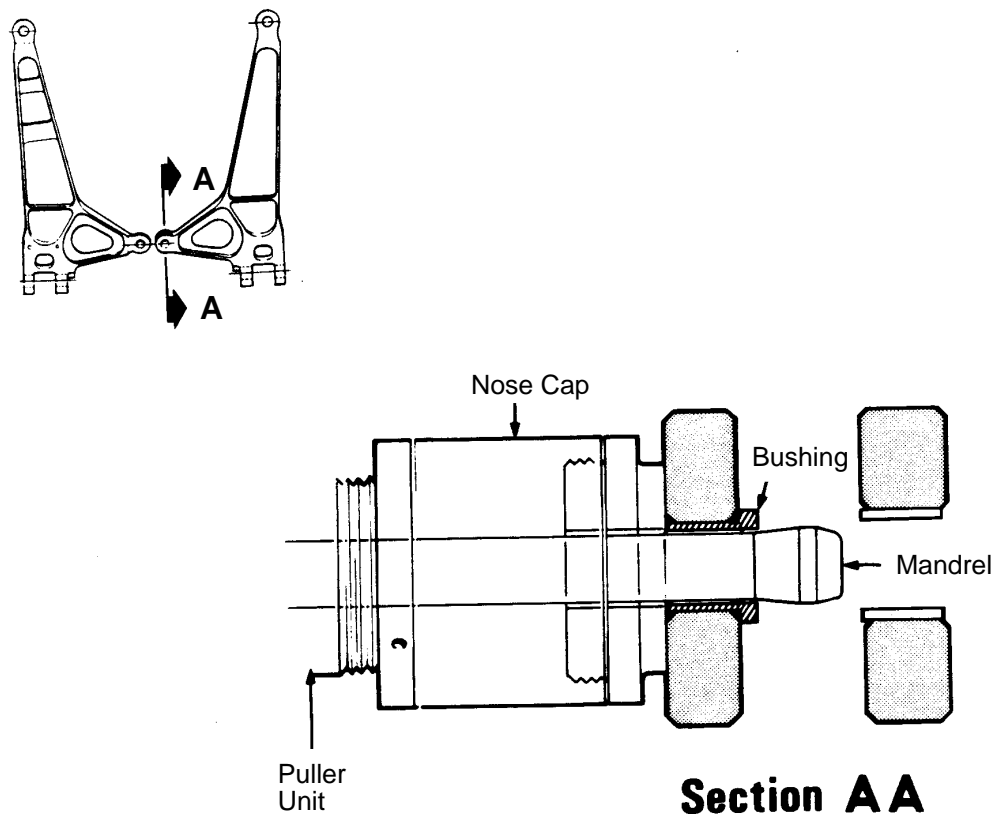

Figure 8 - Installation of DSC 402 Bushings
5.4.4.1 Install DSC 402 bushings as follows (see Figure 8):
- Step 1. Insert a DSC 402 bushing into the lug. The flange of the bushing must be located between the two lugs as shown in Figure 8.